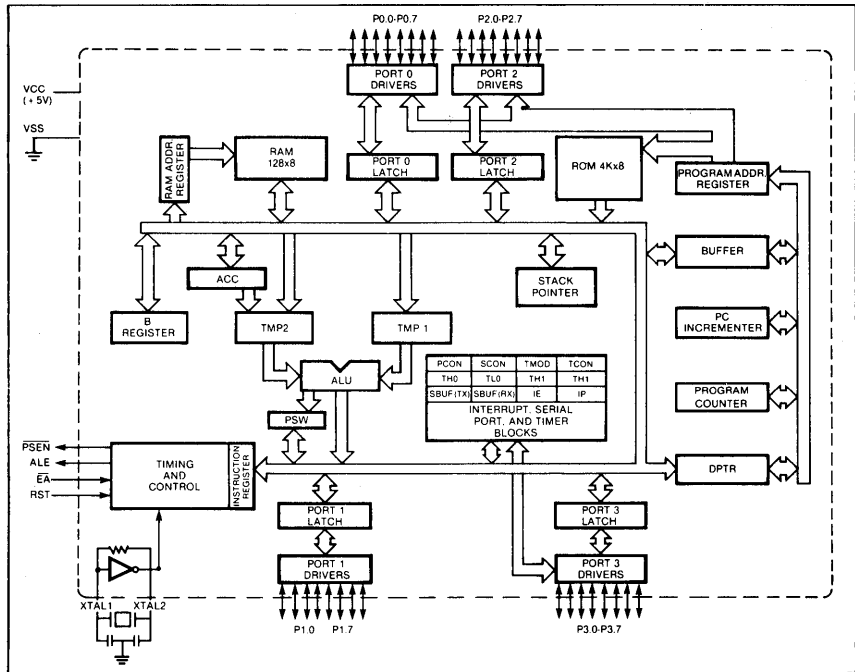
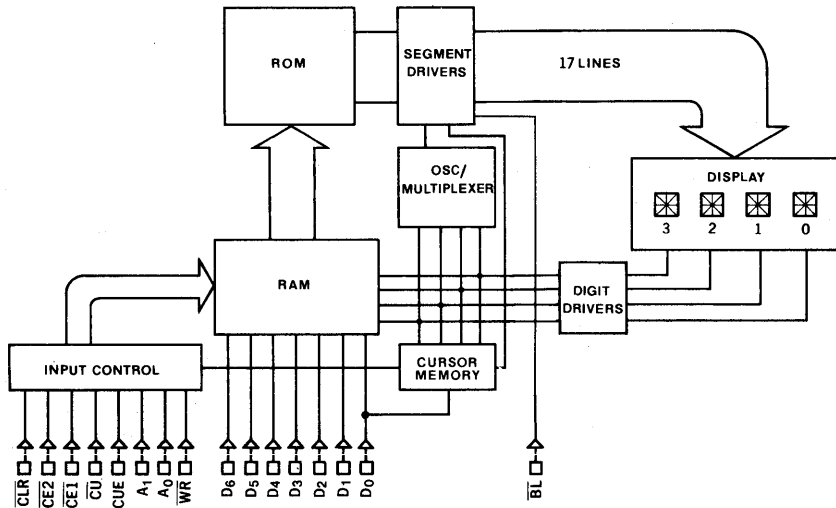
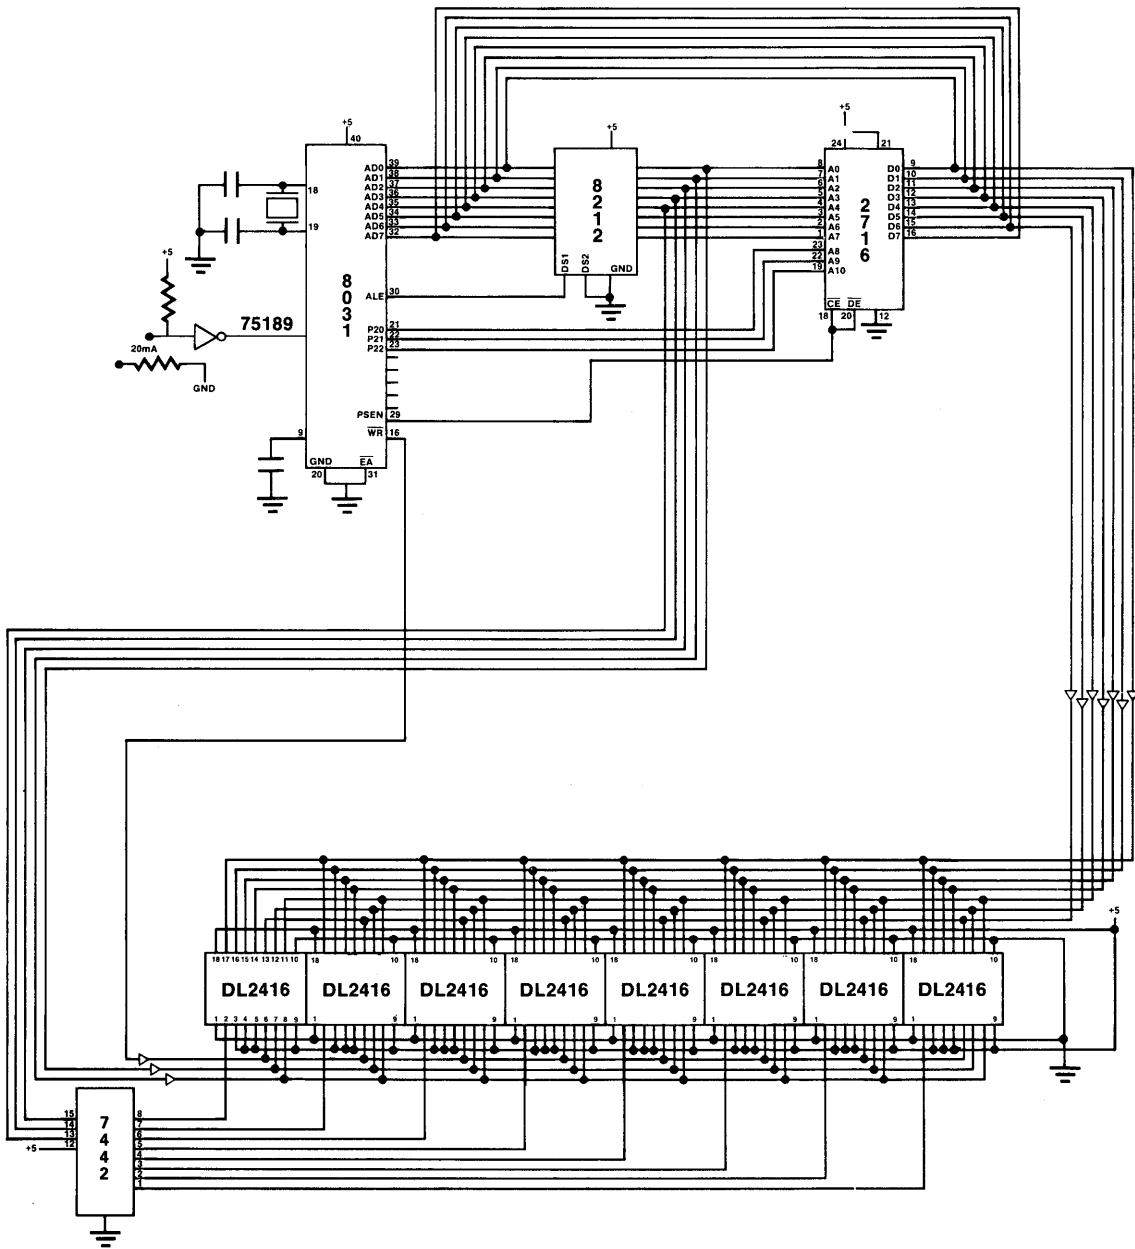

FIGURE 1 — 8031 BLOCK DIAGRAM
FIGURE 2 — DL 2416 INTERNAL BLOCK DIAGRAM
FIGURE 3 — SYSTEM SCHEMATIC
The block diagrams of the 8031 (Fig. 1) and the DL 2416 (Fig. 2) show the internal structure of these devices. By combining the DL 2416, an easy to use peripheral device in a parallel system, and the 8031 results in a low cost, simple serial display system. A 32-digit system can be built using an 8031 microprocessor, an 8212 or equivalent latch, a 2716 EPROM, and a 75189 IC for interfacing to 20mA or RS232 input lines. Buffers were added to minimize the long cable noise spikes and interface loading on the bus. See Figure 3 for system schematic.
- FIGURE 1** **8031 BLOCK DIAGRAM**
- FIGURE 2** **DL 2416 BLOCK DIAGRAM**
- FIGURE 3** **SYSTEM SCHEMATIC**